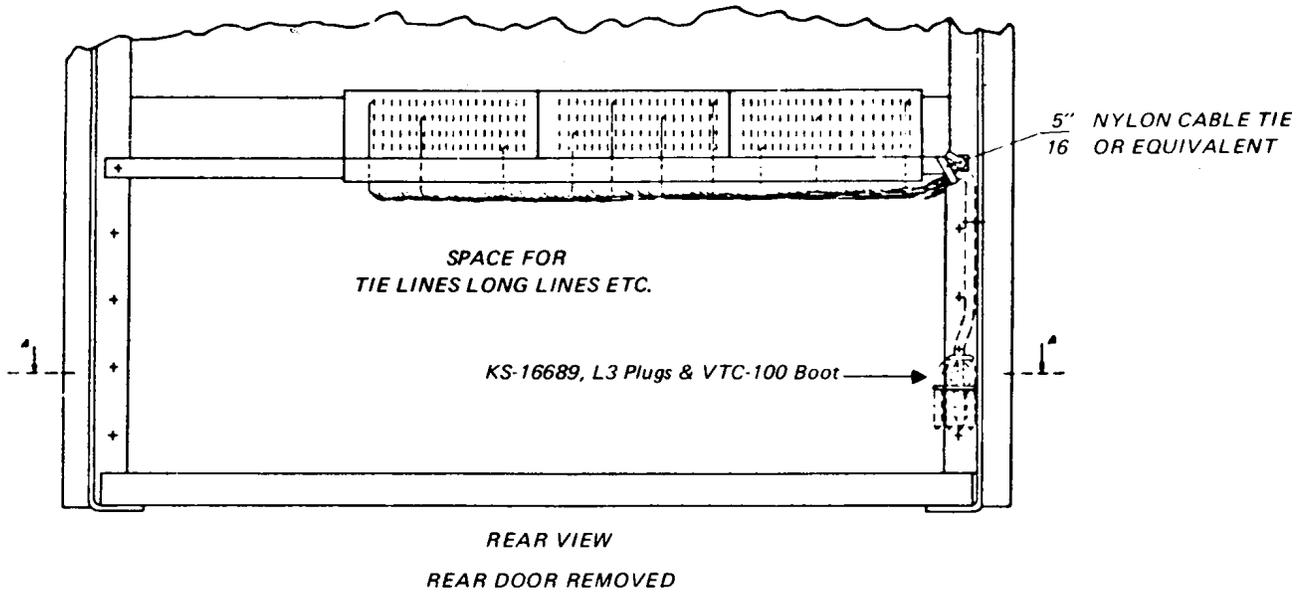

FIG. 1
**2.01** Western Electric Co. will pre-cable the 60 line 555 PBX as shown in Figure 1.